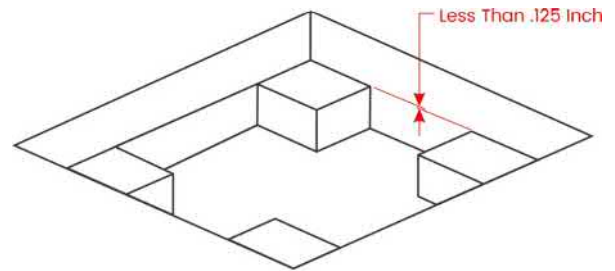

Figure 1
2. The foundation pier should be large enough, so the isolator does not overhang. The concrete surface directly under the isolator must be clean and meet the flatness and slope tolerances shown in the Isolator Tolerance Table below. A brushed concrete finish is recommended. There should not be any holes, cracks, peaks or valleys under the isolator. Pier heights should be within 1/8” (3 mm). See Figure 1.